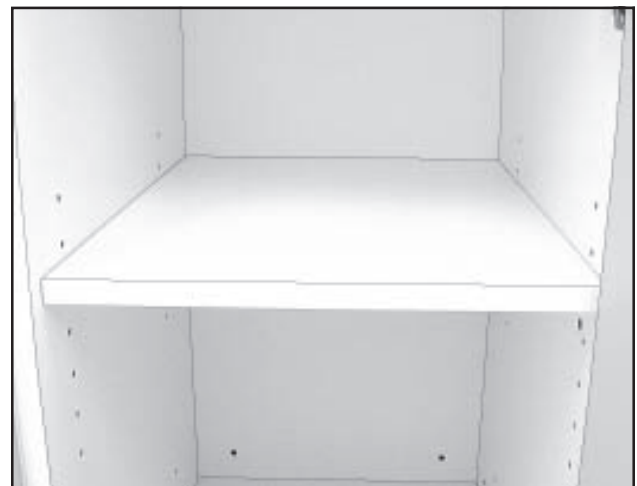

Figure 16. Shelf Mounted in Place
3. Place the shelf in the cupboard on the pegs (Figure 16). If the shelf rocks, you have placed a peg in the wrong hole. Remove the shelf, relocate the peg, and replace the shelf.